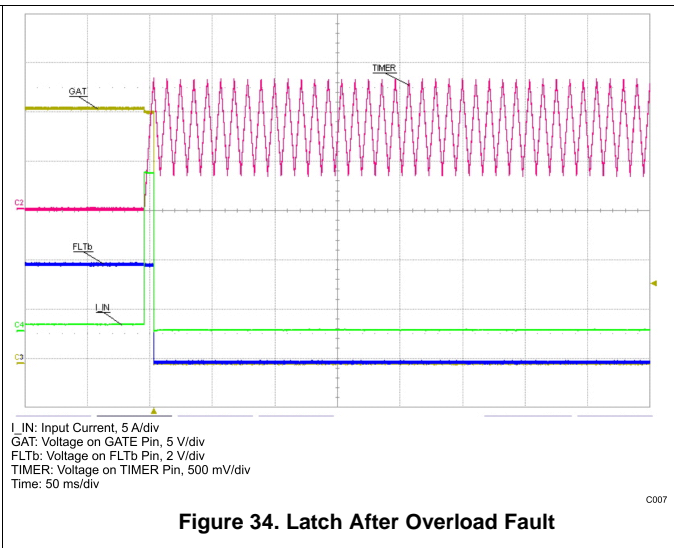

Figure 34. Latch After Overload Fault
The 典型应用 \(12V/10A\), and oscilloscope plots shown in Figure 27 through Figure 29 and Figure 31 through Figure 34, demonstrate many of the functions described previously.
- In latch mode, the GATE remains low and the TIMER pin continues to charge and discharge the attached capacitor periodically until TPS24710/12 is disabled by UVLO or EN as shown in Figure 34.